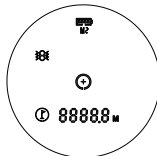

Figure 9
**2) M2 Mode:** Aim at the flagpole or other targets, and short press power button, move the cross sign on the screen slowly from one side to the other side of the target. When the flag sign stops flashing (about 1 second), the machine vibrates. Range data to the flag will show on the screen. (as figure 9)